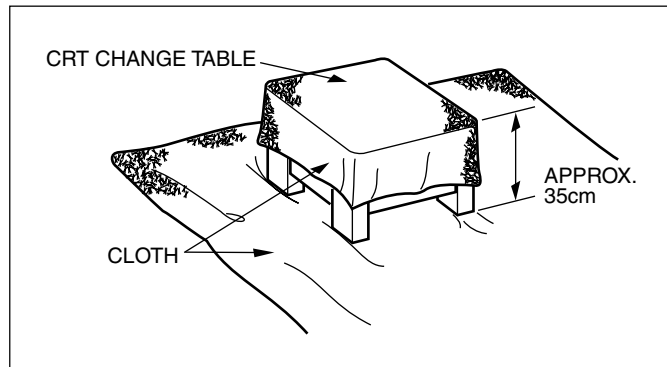

Fig. 3
- 1. Putting the CRT change table on soft cloth, the CRT change table should also be covered with such soft cloth (shown in Fig. 3).